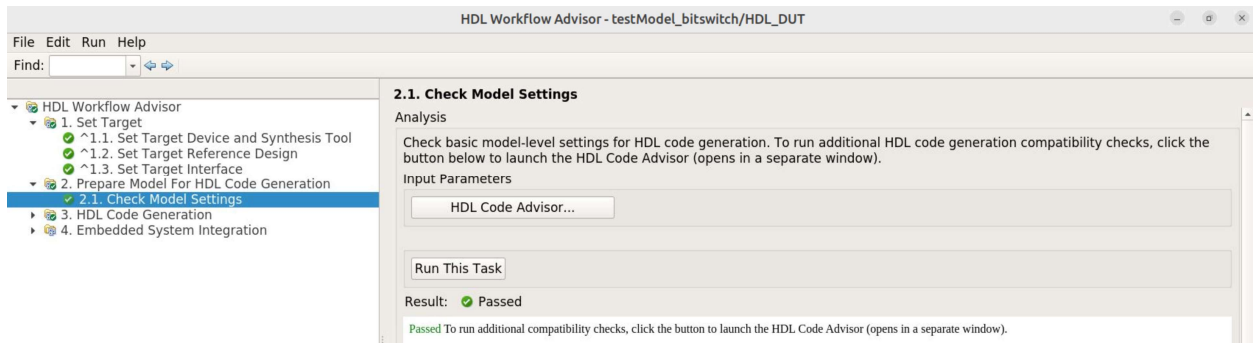

Figure 13. Check Model Settings
2.1 Run the task, as shown in Figure 13.